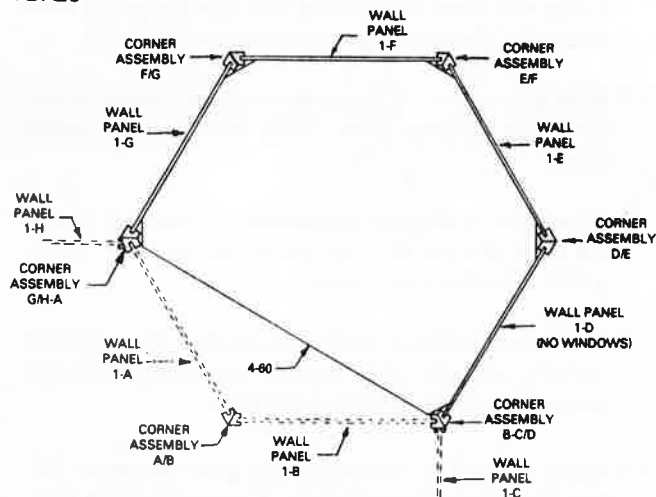

FIG. 32
23. ☐ Start laying hardwood strips at the front of the house and work toward the rear. Cut the strips with scissors. Offset the joints as shown in Figure 32.
25. ☐ To achieve a pegged appearance, if desired, punch the ends of each strip, as shown in Figure 32, using a 3/32-inch diameter nail set.